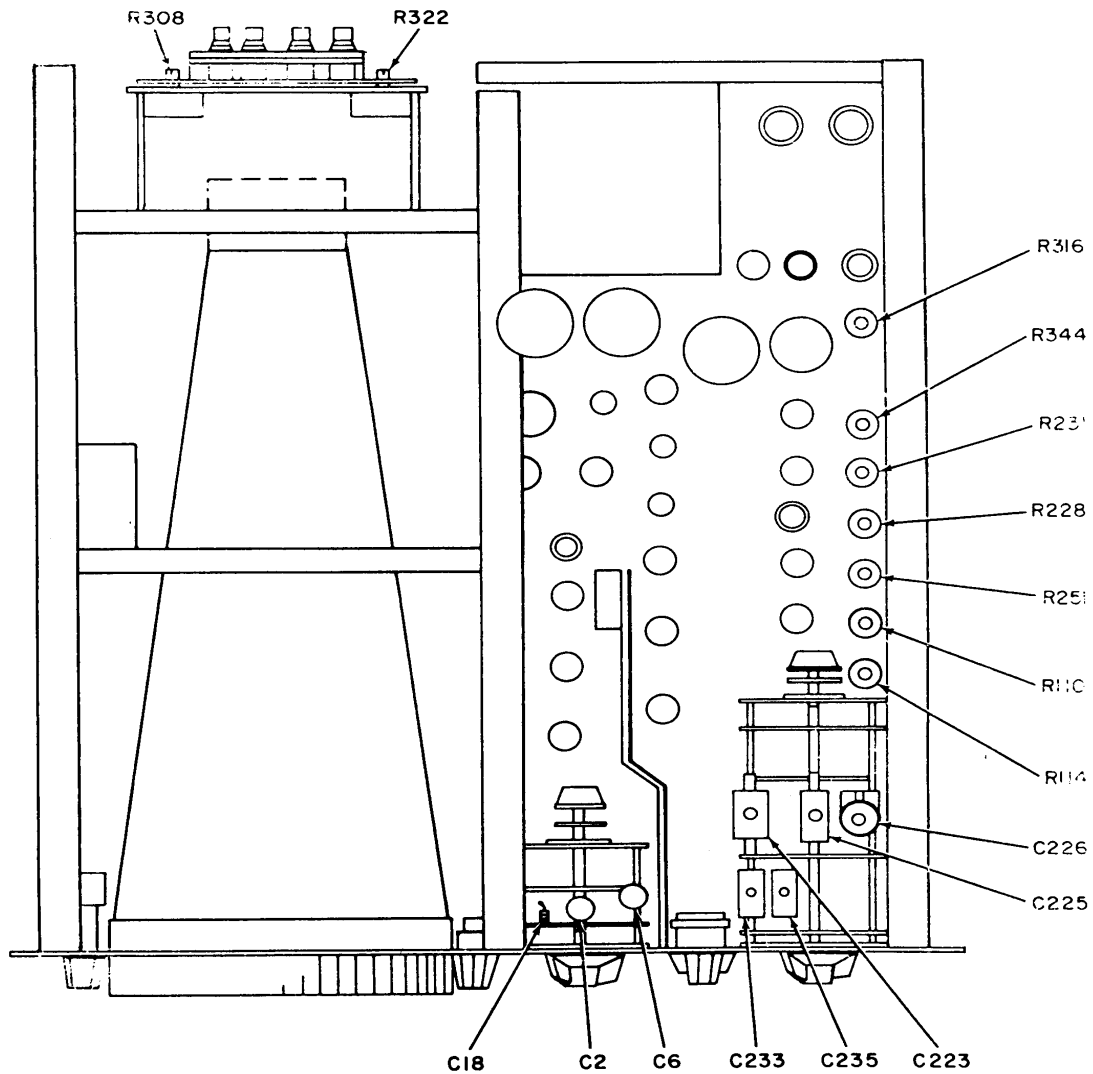
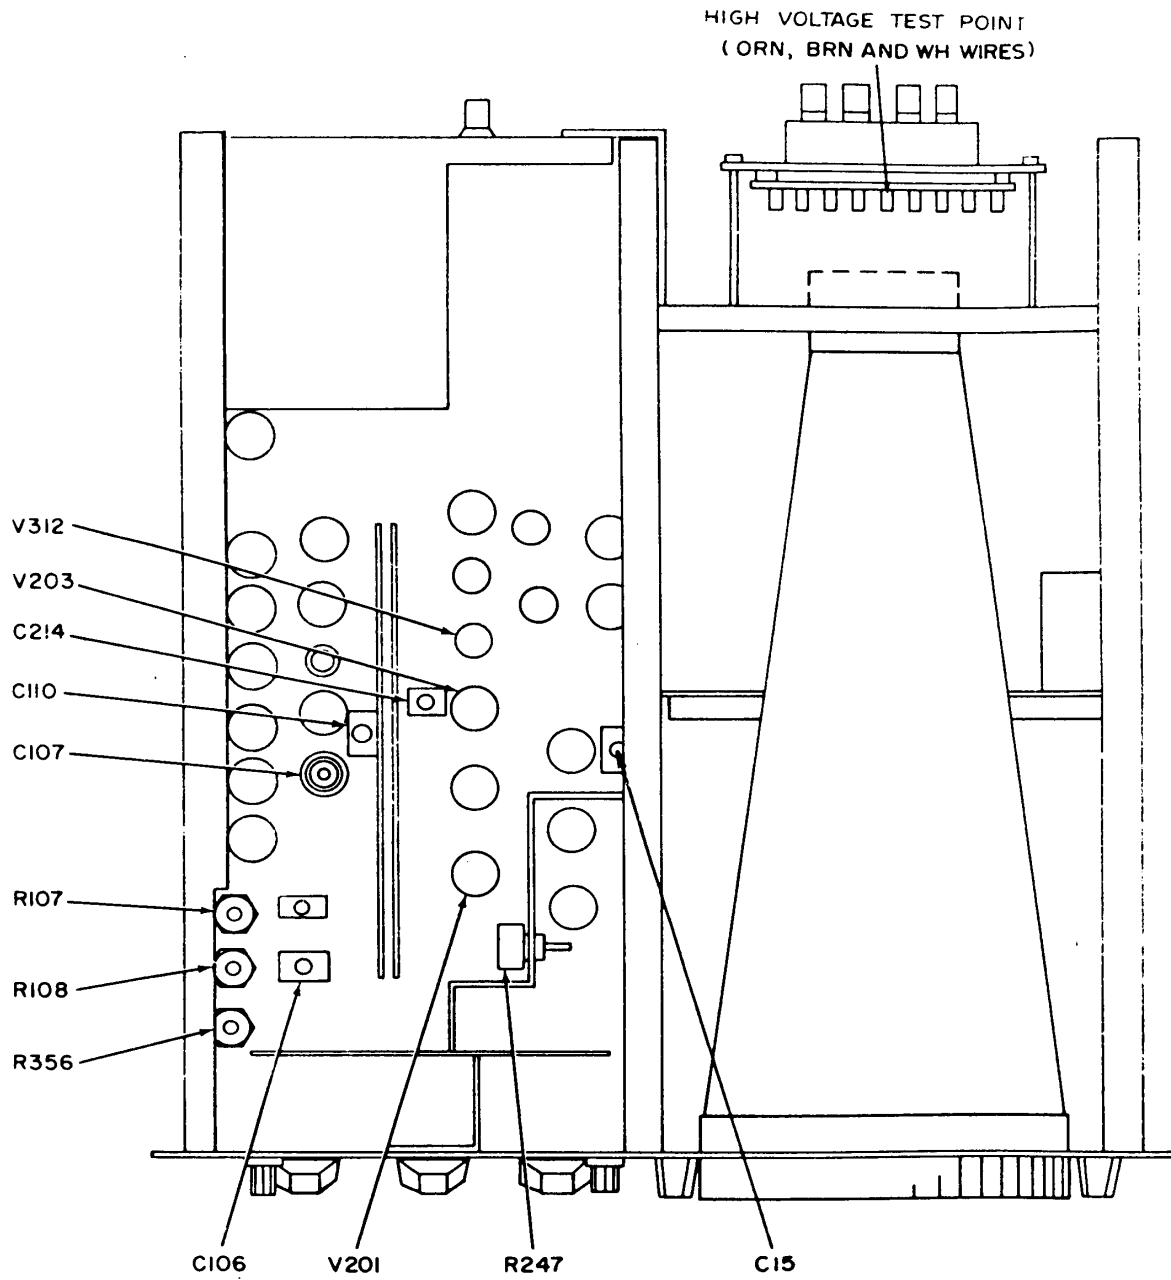

Figure 1. Oscilloscope - top view.
Figure 2. Oscilloscope - bottom view.
- (1) Position TI controls as listed in (a) through (c) below:
- (2) Adjust R316 (fig. 1) for a small round spot.
- (3) Adjust R322 (fig. 1) until spot just disappears.
- (1) Turn VERT SENSITIVITY VERNIER control to midrange.
- (2) Adjust VERT. DC BAL. control (front panel) to center spot on graticule.
- (3) Vary VERT. SENSITIVITY VERNIER control and adjust VERT. DC BAL. control until no spot shift is observed.
- (4) Turn SWEEP TIME-HOR. SENS. VERNIER control fully counterclockwise.
- (5) Adjust R110 (fig. 1) to center spot on graticule.
- (6) Turn SWEEP TIME-HOR. SENS. VERNIER control to CAL.
- (7) Turn HORIZ. POS. control to center spot on graticule.
- (8) Repeat (4) through (7) above until no shift is observed when varying SWEEP TIME HOR. SENS. VERNIER control.
- (1) Adjust test oscillator amplitude for stable display on TI.
- (2) Adjust R247 (fig. 2) while reducing test oscillator amplitude until triggering becomes stable at minimum test oscillator amplitude (less than .70 volt rms).
- (3) Turn TI VERT. SENSITIVITY VERNIER control to CAL.
- (4) Connect ac/dc voltmeter (A1) between pin 8 of V203 (fig. 2) and chassis ground.
- (5) If no trace is present on TI, perform adjustments (a) and (b) below:
- (a) Adjust R228 (fig. 1) counterclockwise until trace appears.
- (6) If trace is present, adjust R228 clockwise until trace just disappears.
- (7) Record ac/dc voltmeter indication.
- (8) Connect lead (B7) with two adapters (B1), between pin 1 of V201 (fig. 2) and chassis ground.
- (9) Slowly turn R228 counterclockwise until trace appears and then clockwise until trace just disappears. Record ac/dc voltmeter indication.
- (10) Adjust R228 for indication of 2 volts more positive than value recorded in (9) above.
(11) Remove lead connected in (8) above.
- (1) Adjust voltage calibrator for a .3535-volt rms output.
- (2) Adjust VERT. GAIN control for 10 centimeters of display amplitude on TI crt.
- (3) Adjust voltage calibrator output to .3535 volt rms.
- (4) Adjust R114 (fig. 1) for 10 centimeters of horizontal display amplitude on TI crt.
- (R)
**b. Adjustments.** Adjust R356 (fig. 2) for display amplitude of 6 centimeters on crt.(R)
(1) Adjust C15 (fig. 2) for best square-wave response.